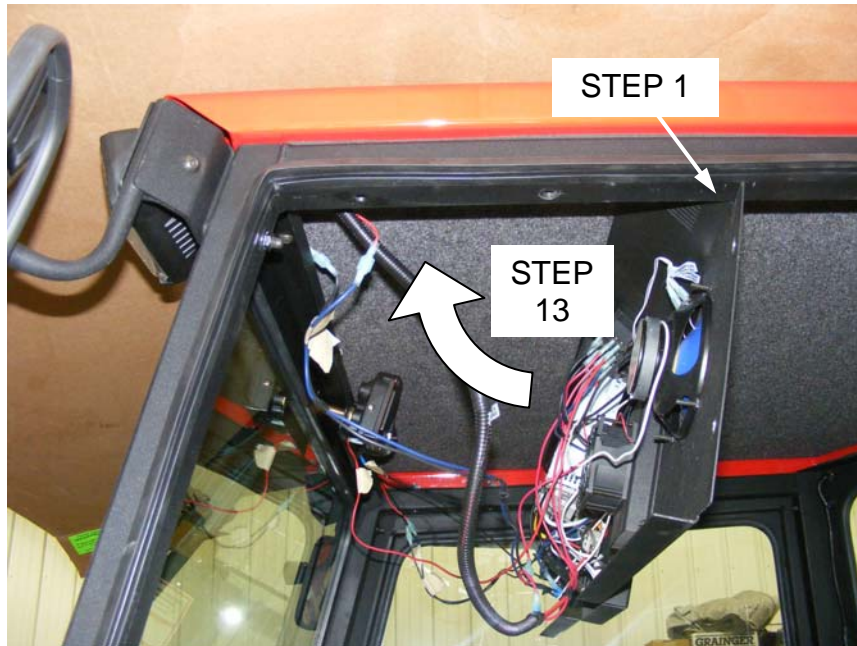

Figure 1
1. Place headliner inside allowing it to hang from cab frame and rear flanges. See figure 1.
13. Tip-rotate headliner upward to mounting location as shown in Figure 1.